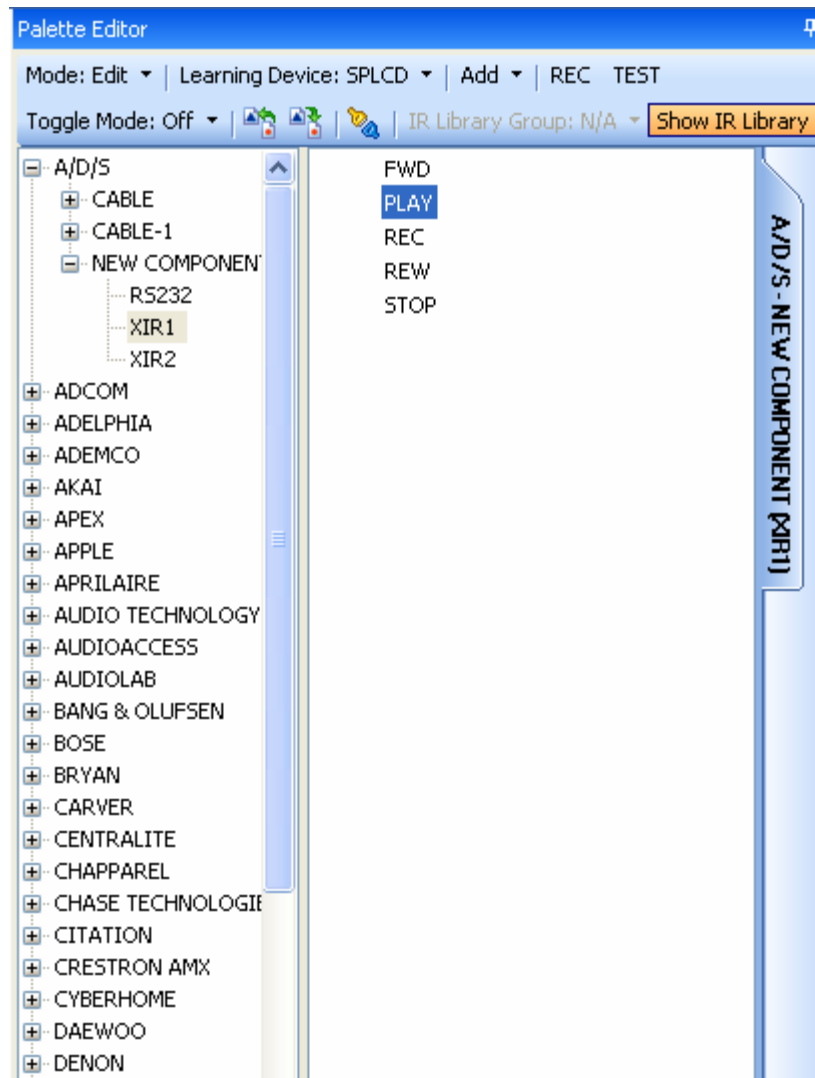

Figure 22: Creating a Palette File
4. The Palette Editor will now be open to the "Brand" & "Component" selected. A list of FUNCTIONS for that type of component will appear as shown in **Figure 22**. Review the list of Functions on the left hand side and compare to the source remote. If your function is not displayed or not named appropriately see the section entitled 'Editing Function Names in the Palette Editor'.